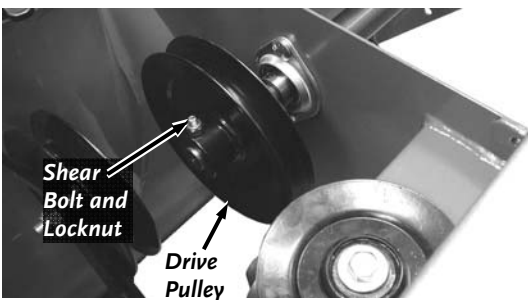

Figure 17
2. Remove any debris from the Shear-Bolt holes located in the Pulley Hub and Auger Drive Shaft (**Figure 17**).